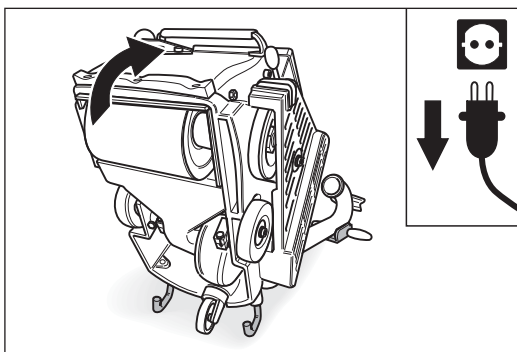

Fig. 90 Tilt the machine backwards. **Ensure that the machine is standing securely!**
- 2 Tilt the machine backwards over the safety guards (Fig. 90). **Ensure that the machine is standing securely!**